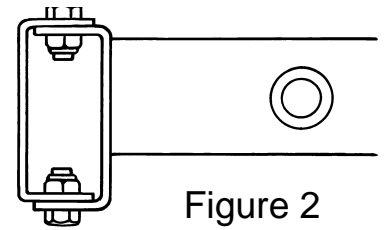

Figure 2
4. Install the new crossmember into the frame with the main tube flush with the tops of the inside frame rail formed end brackets. Align the crossmember in the frame, aligning the top, front hole in the formed frame end bracket with the existing hole in the frame. The front surface of the crossmember should be located 31-3/4" back from the top hole on the 4-bar brackets, see Figure 1. If you do not have an existing hole in the top of your frame, position the crossmember as shown in Figure 1. The lower flanges go under the frame rail flanges, not inside the rails. See Figure 2. Drill the remaining 3/8" holes in the frame rails to match the end brackets. Fasten the crossmember to the frame using the 3/8-16X1" bolts and lock nuts provided.